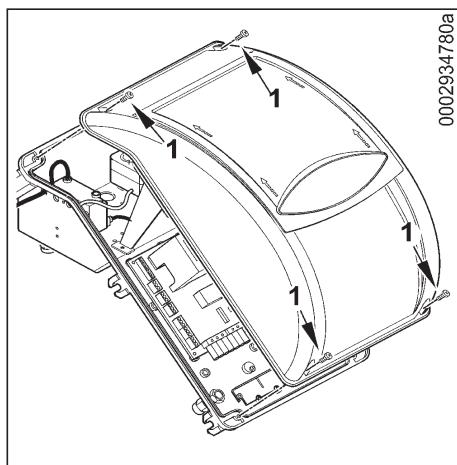

Figure 1
- Remove the lid by unscrewing the four screws (1) in figure 1, without removing the transparent door. In this way the burner's electrical panel can be accessed.